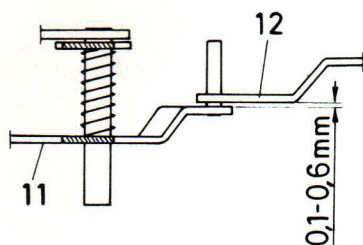

Fig. 9
#### JUSTERING AV SPEL MELLAN URKOPPLINGSARM (11) OCH START- OCH STOPPARMEN (12). FIG 9.